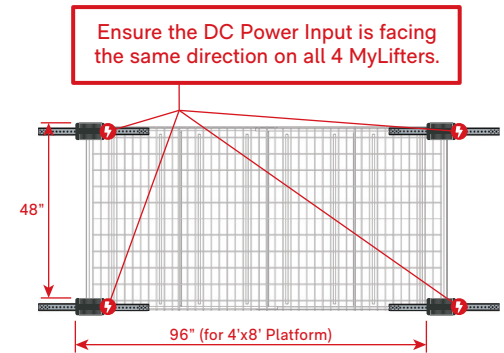

fig 3.6
15. Placement of the MyLifters should be based on/match the dimensions of the platform being installed. For example, if installing the 4'x8' platform the MyLifters should be placed 8 feet apart on the sides and 4 feet apart on the ends. (fig 3.6)